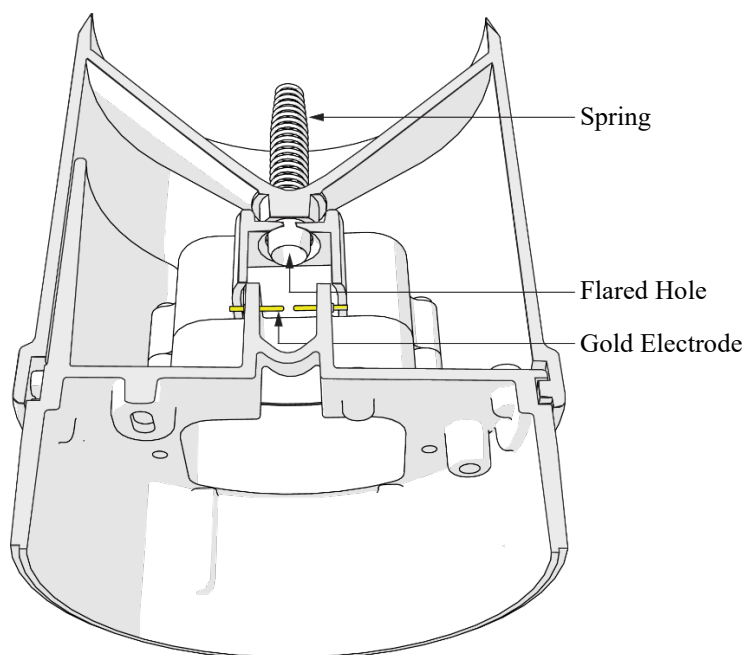

FIGURE 9-5. Rain gage cutout
- c. Check the downspout for debris (FIGURE 9-5). Use a pipe cleaner or small soft brush to clean the downspout.